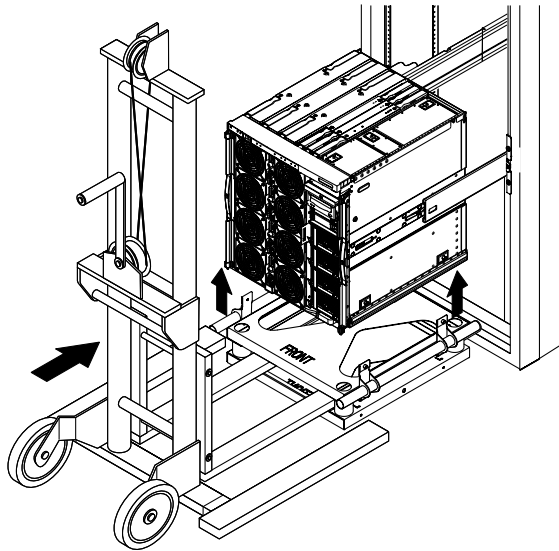

FIGURE 4 Positioning the Shipping Cradle
Note – When you choose a method to move the system, keep in mind that the system weighs 240 to 290 pounds (109 to 132 kg). If possible, use a mechanical lifting device such as the one shown in FIGURE 4.
10. Raise the shipping cradle up to the system (FIGURE 4). Orient the front of the shipping cradle with the front of the system.